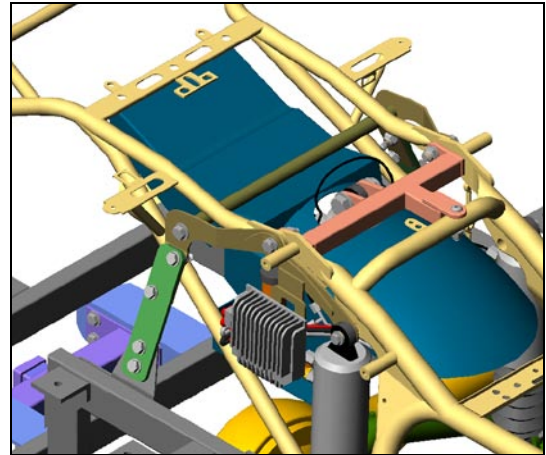

Figure 50
- a. Remove the two bolts (retain for reuse) from the cross brace between the left and right hanger brackets. Figure 50
- b. Remove center fender mounting bolt (retain for reuse). Figure 50